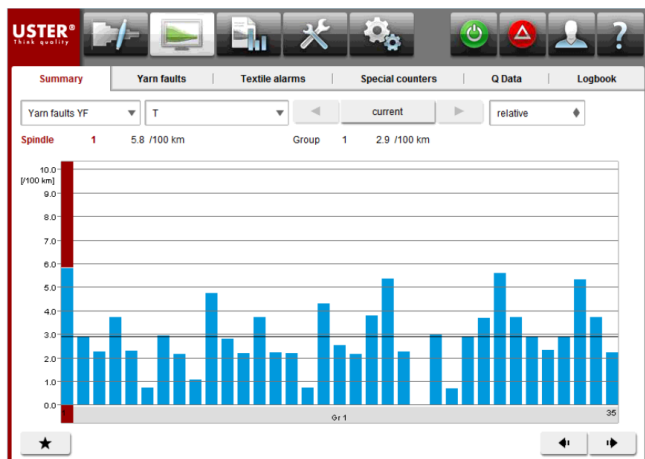

Fig. 3: 3 T-cuts/100 km before the problem started.
- comparing the number of T-cuts/100 km before and after the problem occurred (Fig. 3 and 4)